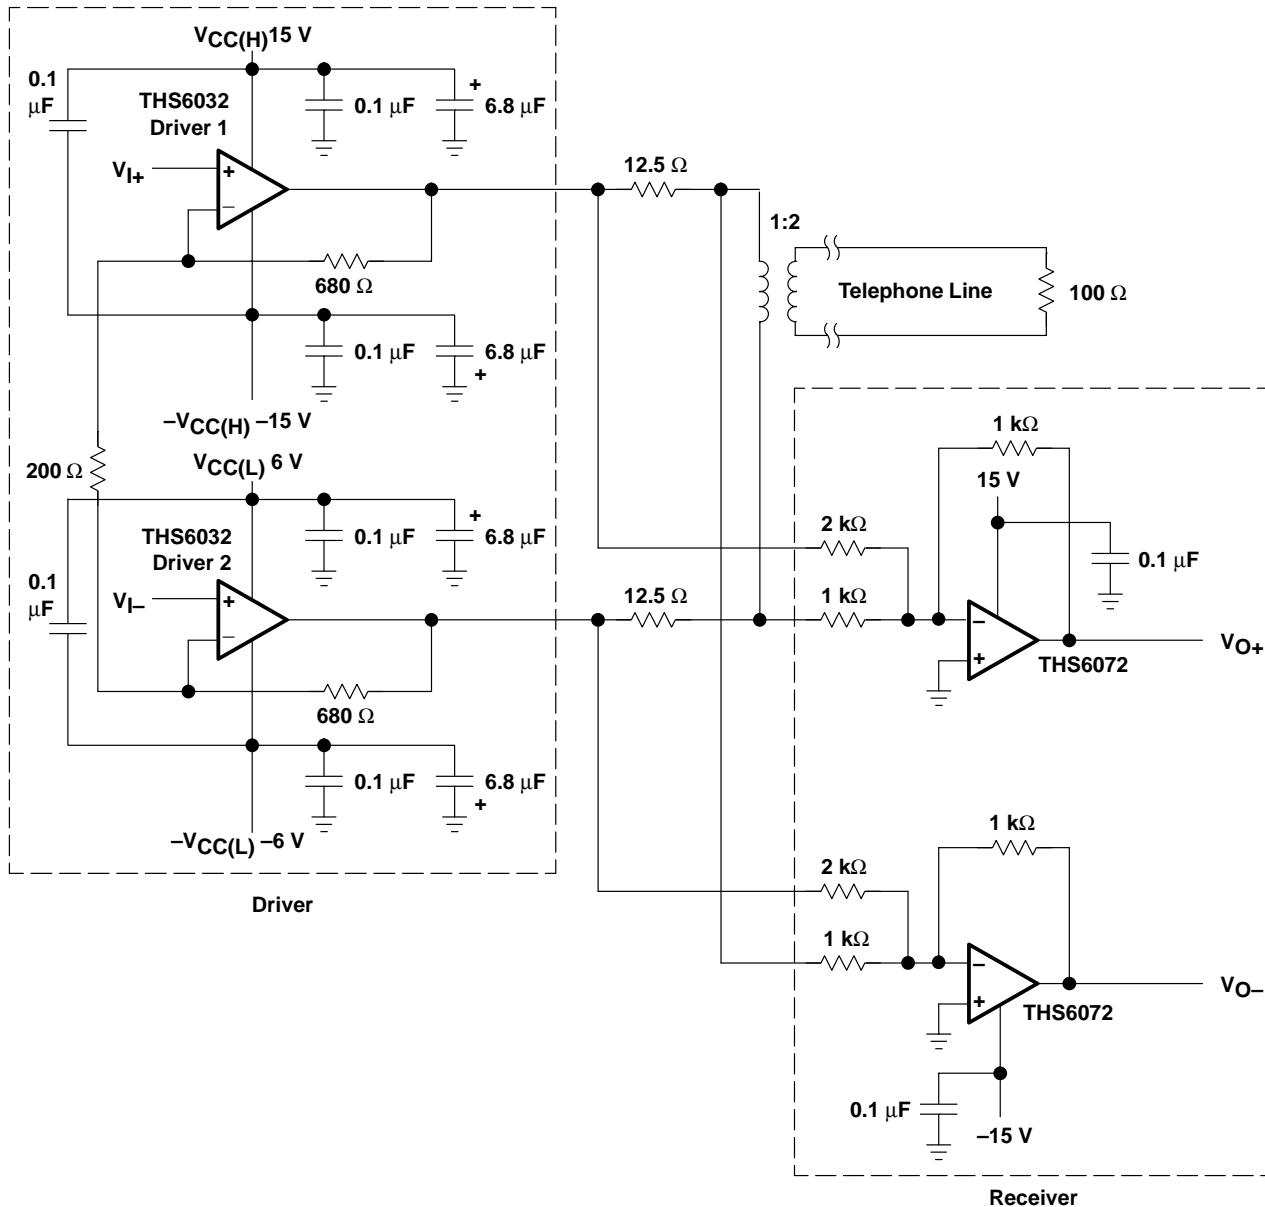

Figure 36. THS6032 ADSL Application
The THS6032 was primarily designed as a low-power line driver for ADSL (asymmetrical digital subscriber line). The driver output stage has been sized to provide full ADSL power levels of 20 dBm onto the telephone lines. Although actual driver output peak voltages and currents vary with each particular ADSL application, the THS6032 is specified for a minimum full output current of 400 mA at its full output voltage of approximately 11 V. This performance meets the demanding needs of ADSL at the central office end of the telephone line. A typical ADSL schematic is shown in Figure 36.
- Differential power supply decoupling – The THS6032 was designed for driving low-impedance differential signals. The 25 Ω load which each amplifier drives causes large amounts of currents to flow from amplifier to amplifier. Power supply decoupling for differential current signals must be accounted for to ensure low distortion of the THS6032. By simply connecting a 0.1- μ F ceramic capacitor from the + $V_{CC(H)}$ pin to the - $V_{CC(H)}$ pin, along with another 0.1- μ F ceramic capacitor from the + $V_{CC(L)}$ pin to the - $V_{CC(L)}$ pin, differential current loops will be minimized (see Figure 36). This will help keep the THS6032 operating at peak performance.
The THS6032 incorporates a shutdown circuit to conserve power. Traditionally when an amplifier is placed into shutdown mode, the input and output circuitry are turned off. This conserves a large amount of power, but the output impedance will be a very high, typically greater than several k Ω . This situation does not allow for proper line termination resulting in a severe reduction of the receive signal coming through the transmission line (see Figure 36).